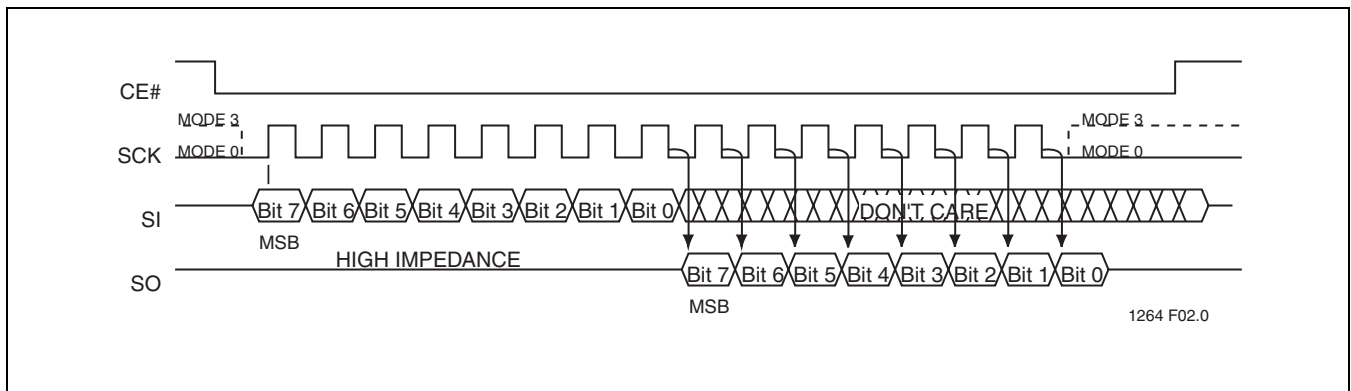

FIGURE 2: SPI PROTOCOL
The PCT25VF512A supports both Mode 0 (0,0) and Mode 3 (1,1) of SPI bus operations. The difference between the two modes, as shown in Figure 2, is the state of the SCK signal when the bus master is in Stand-by mode and no data is being transferred. The SCK signal is low for Mode 0 and SCK signal is high for Mode 3. For both modes, the Serial Data In (SI) is sampled at the rising edge of the SCK clock signal and the Serial Data Output (SO) is driven after the falling edge of the SCK clock signal.